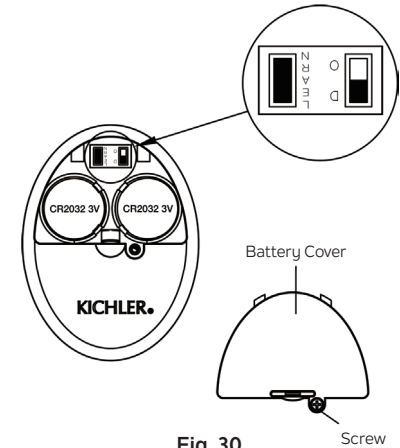

Fig. 30
Otherwise the remote control will not work. To perform this process manually, follow steps below: After installing and wiring the unit, restore power to your fan, press and hold the “LEARN” key for 1-3 seconds, and the fan will turn on at medium speed and light (if installed) will turn on. This confirms that the learning process has been completed. This operation must be completed within 30 seconds after restoring power to the fan. (Fig. 30)
**NOTE:** Ensure slide switch in battery compartment marked “D O” is set to “D” position. (Fig. 30)
**Step 4.** Replace the battery cover and tighten with screwdriver. (Fig. 30)